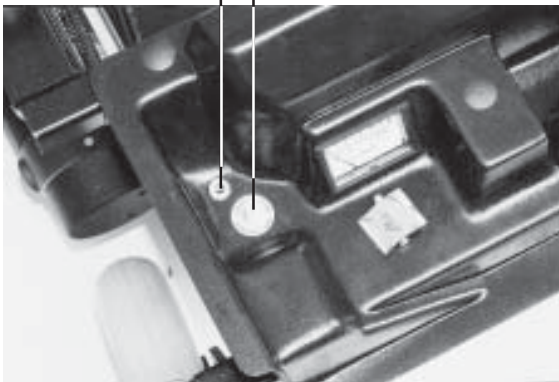

Figure 4. Main Circuit Breaker
- **Main circuit breaker:** The main circuit breaker is a safety feature built into your Jazzy 1120. See figure 4. When the batteries and the motors are heavily strained (e.g., from excessive loads), the main circuit breaker trips to prevent damage to the motors and the electronics. If the circuit trips, allow your Jazzy to "rest" for approximately one minute. Next, push in the circuit breaker button, turn on the joystick controller, and continue normal operation. If the main circuit breaker continues to trip repeatedly, contact your authorized Pride provider.